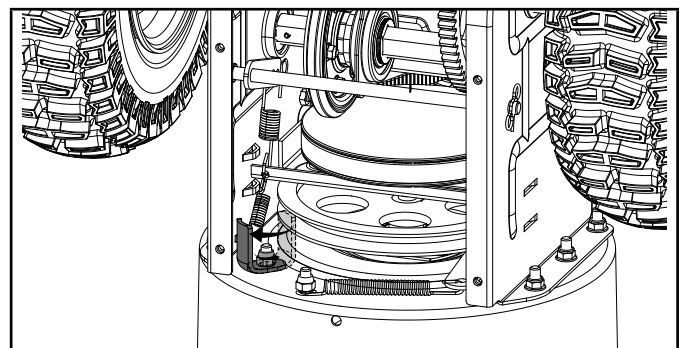

Figure 32A
7. Slip the new auger drive belt into the compartment from the bottom of the snowblower placing it around the bottom of the auger drive pulley and slipping it around the front pulley on the engine. Ensure the belt is positioned between the bottom belt guard and the bottom of the auger drive pulley. You may need to remove the bolt holding the lower belt guard in place to properly seat the belt into the pulley. Replace the belt guard and bolt after installing the belt into the pulley (Fig. 32A/B).